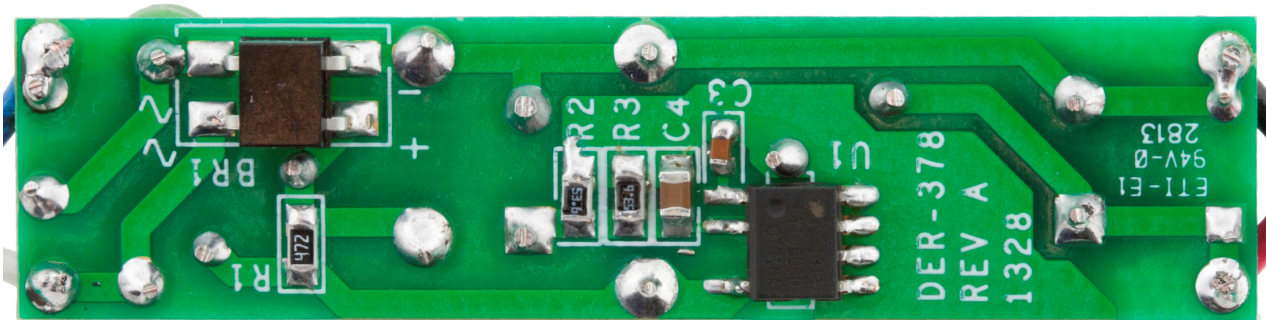

Figure 3 – Populated Circuit Board, Bottom View.
The power supply shown in Figure 3 uses the LYT0006D (U1) in a high-side buck configuration to deliver a constant 82 mA current at an output voltage of 85 VDC. The power supply is designed for driving LEDs, which should always be driven with a constant current (CC).